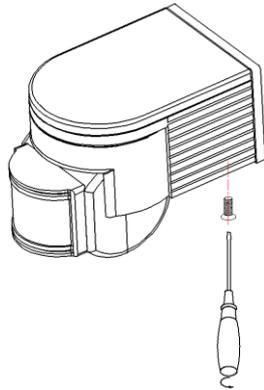

Figure 1
- Loosen the screw on the bottom and unload the bottom (refer to figure 1).